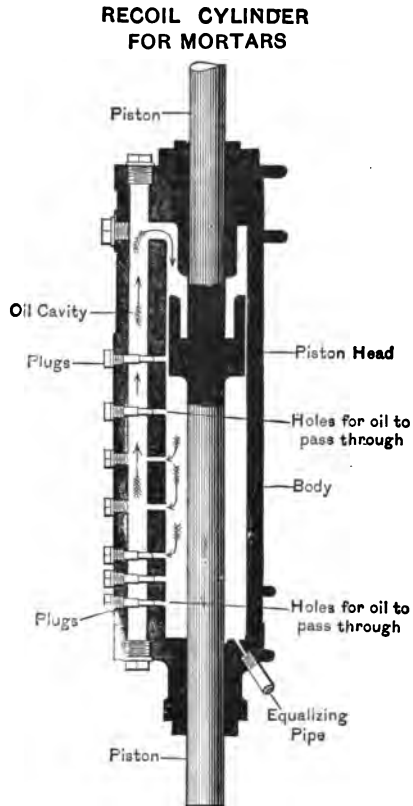

FIG. 32.
A. Fig. 32. When the mortar is fired, the piston is forced down, causing the piston-head to force oil through the oil-holes shown on the left of Fig 32. This oil passes through the oil-cavity upward and in rear of the piston-head. By opening or closing these oil-passages by withdrawing or inserting different-sized plugs the friction, hence the recoil, can be adjusted.
*Note.*—For steel mortars model '91 the plugs are as in Fig. 32; that is, from top to bottom: closed,  $\frac{1}{2}$ , 0, 0,  $\frac{1}{2}$ , closed, closed. For C. I. mortars '91: c.,  $\frac{1}{2}$ , 0, 0,  $\frac{3}{4}$ , c., c. For model '96 c.,  $\frac{1}{2}$ ,  $\frac{1}{4}$ , 0,  $\frac{1}{4}$ .